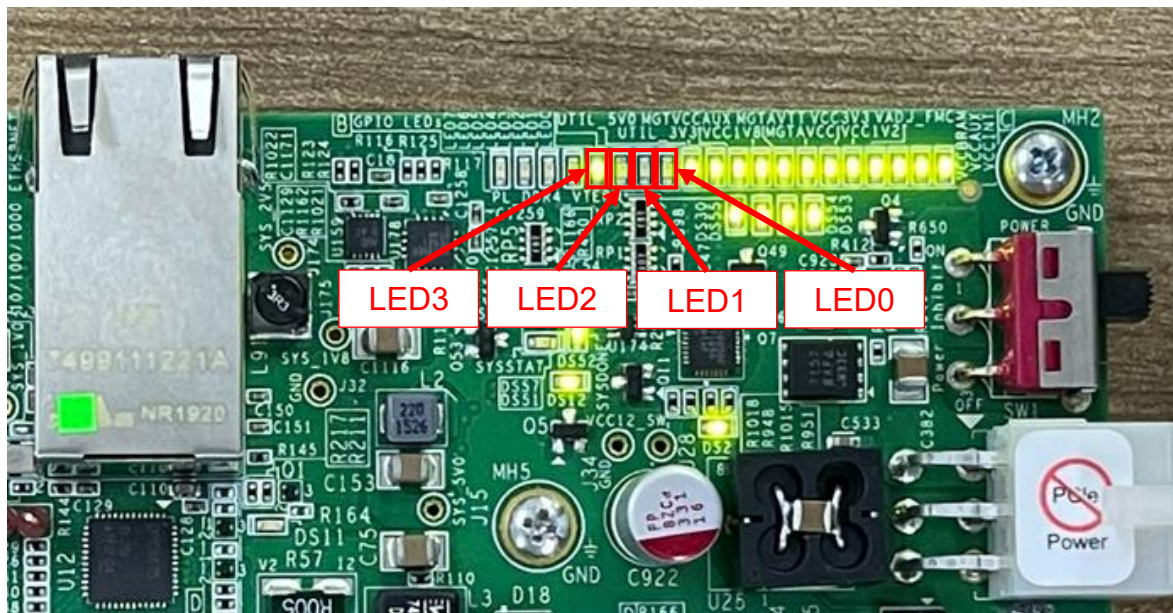

Figure 3-4 LED[3:0] status on board
- 6) When configuration is completed, user can check status LEDs on board as Figure 3-4.
- 1) Please make sure that LED0 (TOE10G busy) is off (please refer LEDs on board in Figure 3-4), before click “Connect” button.